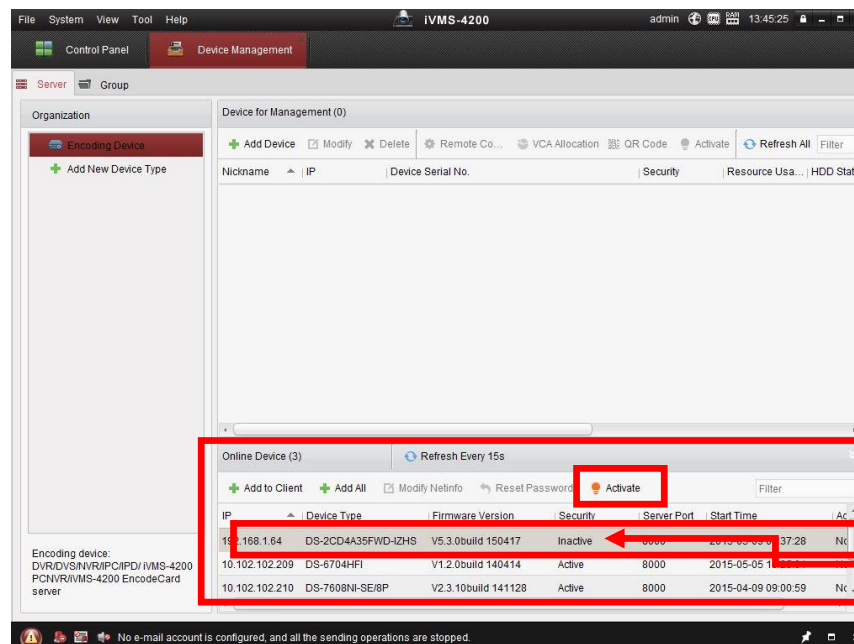
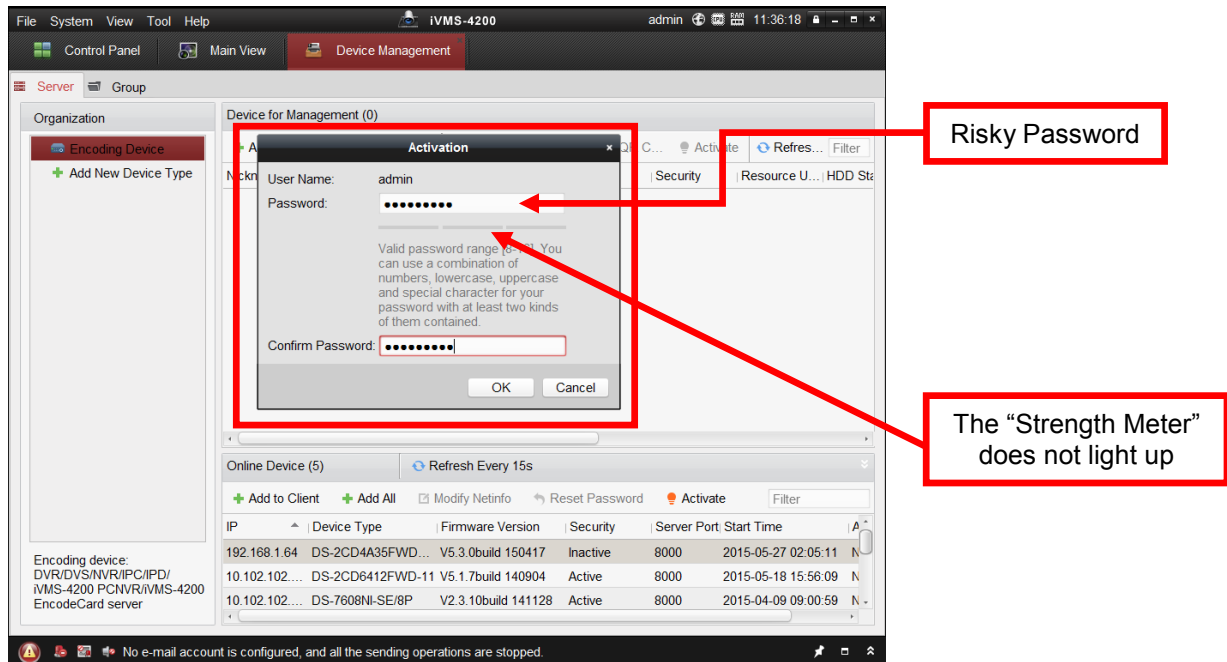
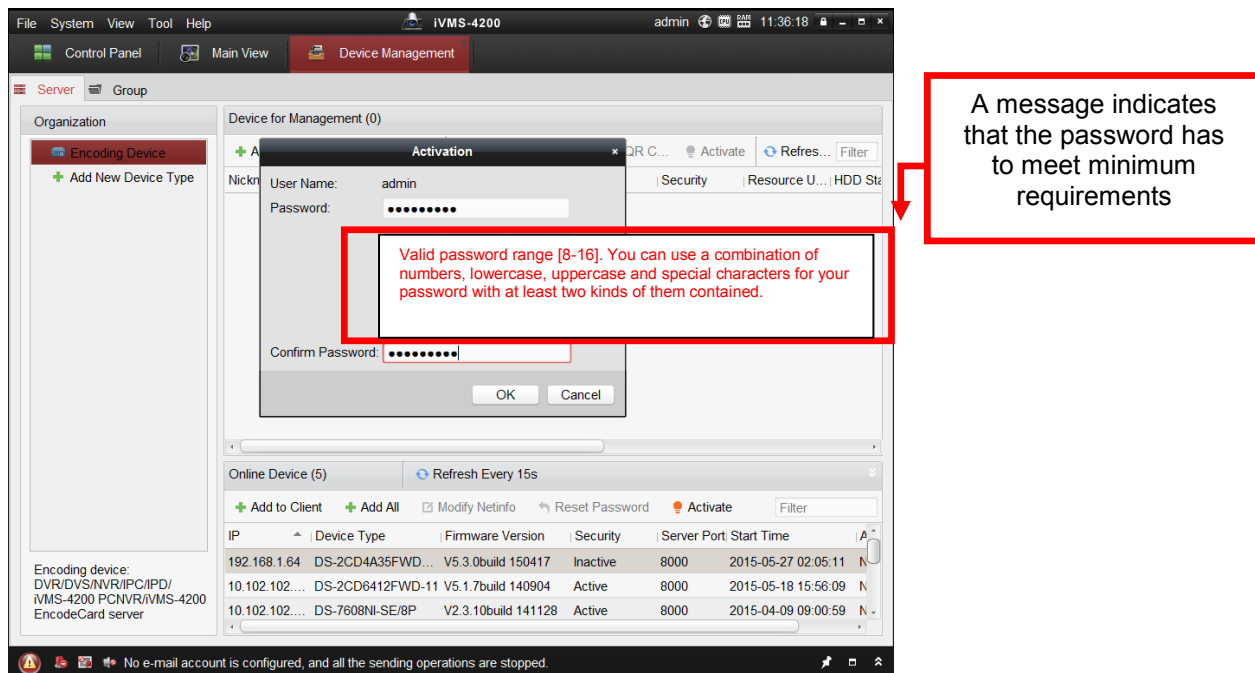

Figure 28 Inactive DVR/NVR Status
Figure 29 Activation Window with Risky (Inadequate) Password Strength
Figure 30 Risky (Inadequate) Password Strength Warning Message
- A new field called “Security” will display whether the DVR/NVR is active or not **(Figure 28)**.
3. If the DVR/NVR is “Inactive,” highlight the DVR/NVR and press the **Activate** button **(Figure 28)** to display the “Activation” window **(Figure 29)**.
4. Enter a new password into the “Password” field **(Figure 29)**. See “Password Strength Levels” table on page 37 for guidelines.
- If the password is of unacceptable strength (“Risky,” **Figure 29**), a warning box will be displayed **(Figure 30)** explaining the requirements for an acceptable password.